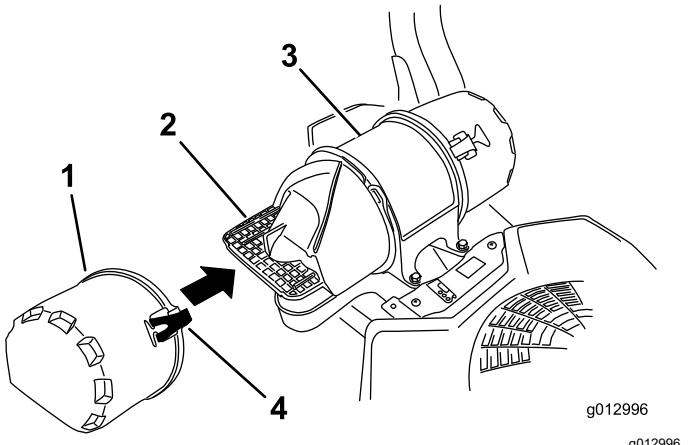

Figure 56
3. Release the latches on the air cleaner and pull the air-inlet cover off the air-cleaner body (Figure 56).
5. Install the air-inlet cover and secure it with the latches (Figure 56).